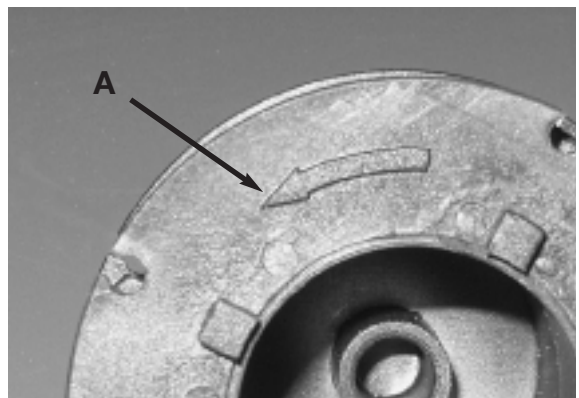
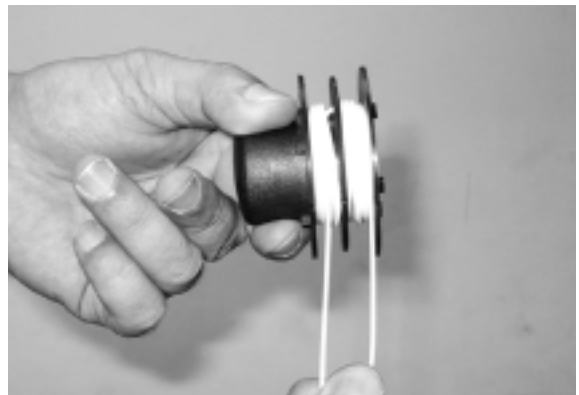

Fig. 14
Fig. 15
5. Wind the line onto the spool by turning the spool. The line should go on in the direction of the arrow (A) on the spool (Fig. 14). Line should be wrapped tightly around the spool. The line is wound with each half separated by the divider. Tightly wind it until there is about 6" of line left (Fig. 15).